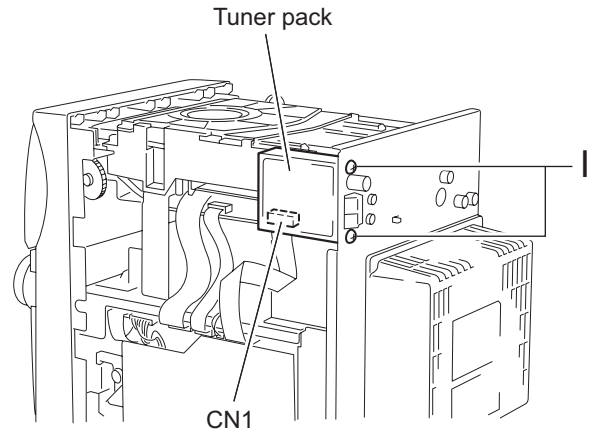

Fig.15
2.1.5 Removing the tuner pack (See Fig.15)